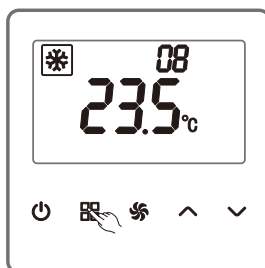

Figure 14
As shown in the Figure 14, on the parameter setting page, press  (MODE) to switch the option number to 08.  (UP) or  (DOWN) is provided to allow a rise or drop on the temperature. If the temperature unit is Celsius, the adjustment range is 16°C~30°C with a precision of 0.5°C. If the temperature unit is Fahrenheit, the adjustment range is 61°F~86°F with a precision of 1°F.